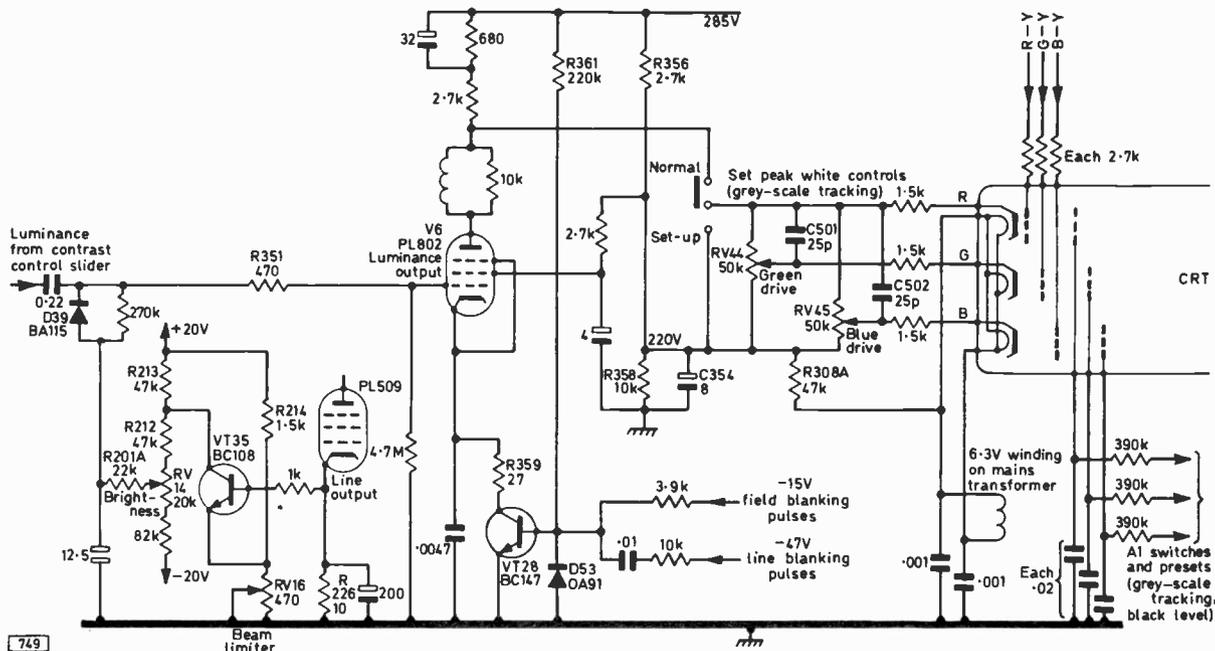

Fig. 1: The luminance output circuit used in the Pye 691 chassis, showing the brightness control, flyback blanking and beam limiting arrangements.
D.C. restorer diodes used in monochrome receivers (e.g. in the Philips 210 chassis) are usually simply shunted across the video output pentode grid circuit with the anode to chassis. In a colour receiver however this is a convenient point at which to introduce the brilliance control action. As can be seen in Fig. 1 the anode of the d.c. restorer diode D39 is returned via a 22k Ω resistor (R201A) to the slider of the brilliance control. The track of the brilliance potentiometer is connected between negative and positive rails via limiting resistors. The tapped off potential does not go positive however, the arrangement simply allowing the beam limiting transistor (VT35) to operate. The net result is that the voltage tapped from the brilliance control forms a d.c. base on which the d.c. restored luminance signal is superimposed. This signal is applied to the luminance output pentode (V6) grid via R351: thus altering the brilliance control setting varies the valve's operating point. As the anode of the luminance output pentode is directly linked to the three cathodes of the shadowmask tube variations in the mean anode voltage of V6 due to changes in its negative grid